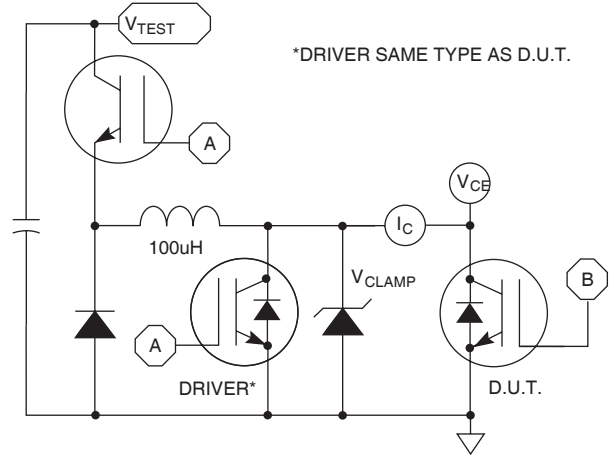

Figure 24, EON1 Test Circuit
④  $E_{on1}$  is the clamped inductive turn-on-energy of the IGBT only, without the effect of a commutating diode reverse recovery current adding to the IGBT turn-on loss. (See Figure 24.)